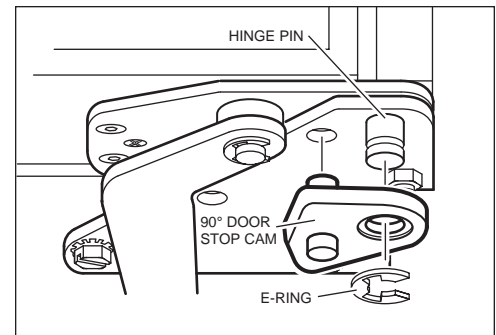

Figure 2-14. 90° Stop Cam
- With door closed, place door stop cam up over hinge pin, making sure stub on cam fits into hole in lower cabinet hinge (See Figure 2-14).
- Secure door stop cam by pushing E-ring into groove at end of hinge pin (See Figure 2-14).